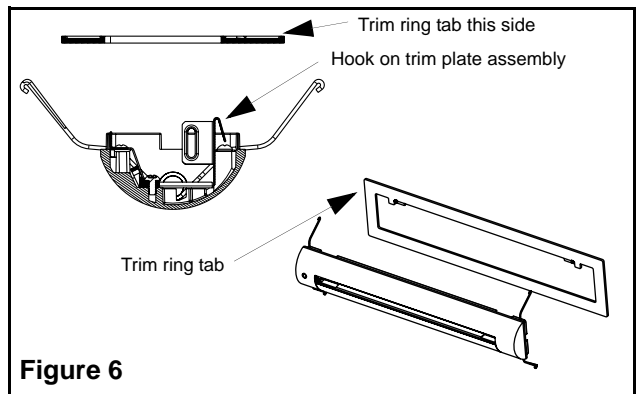

Figure 6
3. Recessed installation (Figure 6). Attach the flat trim ring to the trim plate. Orient the trim ring and snap it with the two tabs behind the hooks of the side brackets.